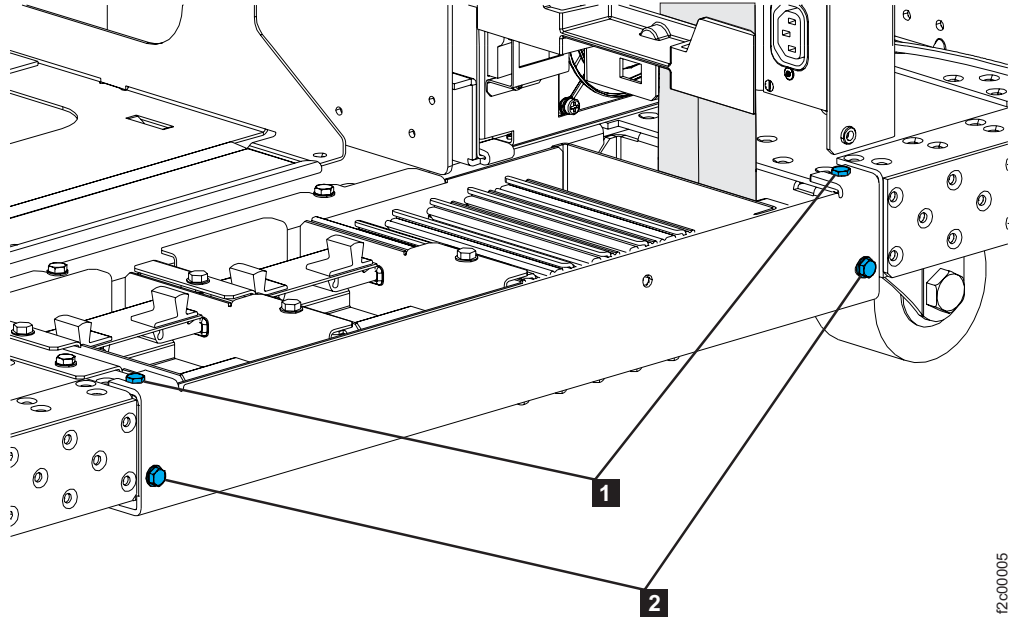

Figure 6. Tailgate frame bracket
11. Remove the tailgate frame bracket. Remove two screws **2** as shown in Figure 6 on page 13. Loosen but do not remove the two top screws **1**. Slide the bracket out.